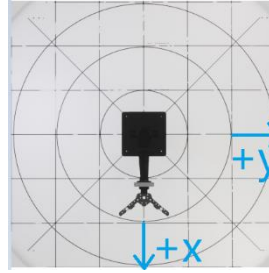

Figure 3: Orientation of the QArm Workspace
- View the manipulator from the top in a way that the manipulator's end-effector points south in the home position, as shown in figure 3. The **up** and **down** arrow keys should drive the end-effector correspondingly in the North and South directions, which in turn correspond to a positive or negative x-direction. Add a gain block to the two channels labelled up and down. Set the value of these gains to +1 or -1 depending on the correct directions.